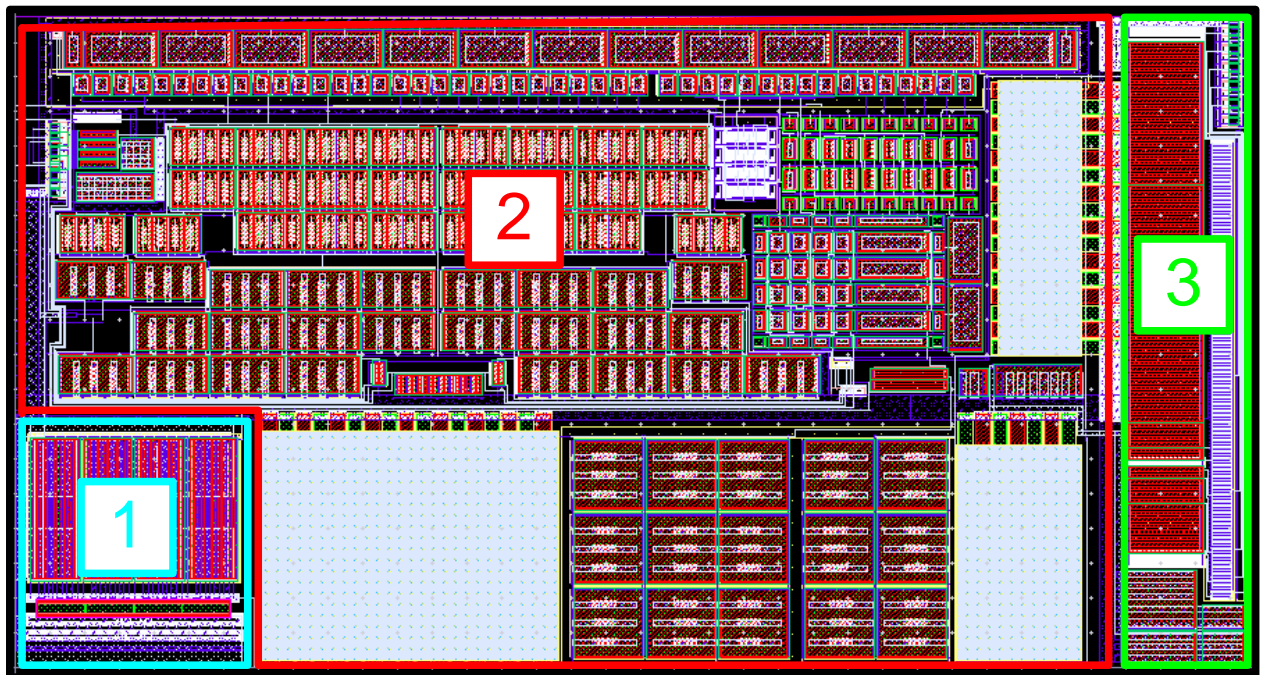

Figure 4: LDO voltage regulator layout
- Subsection 7.2 “Physical dimensions”. Figure 4 updated